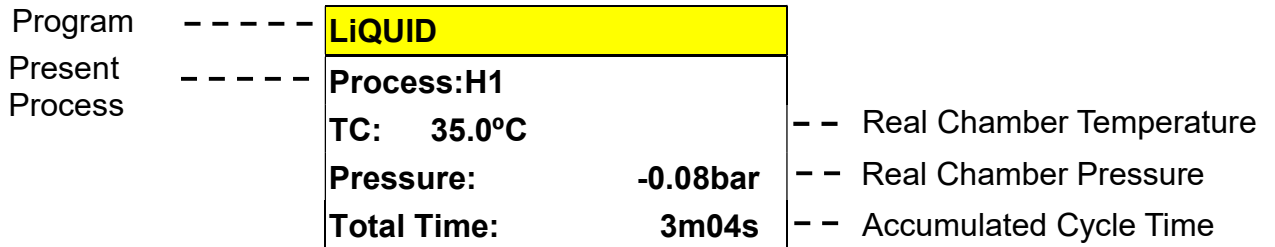

Figure 70
H. Press  button again to start the selected program. The relative information such as program cycle, present process, temperature, pressure and time as shown in Figure 70 will be displayed on the panel.